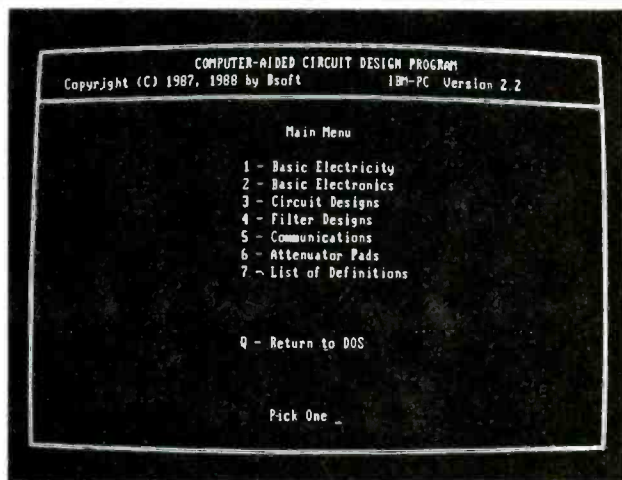
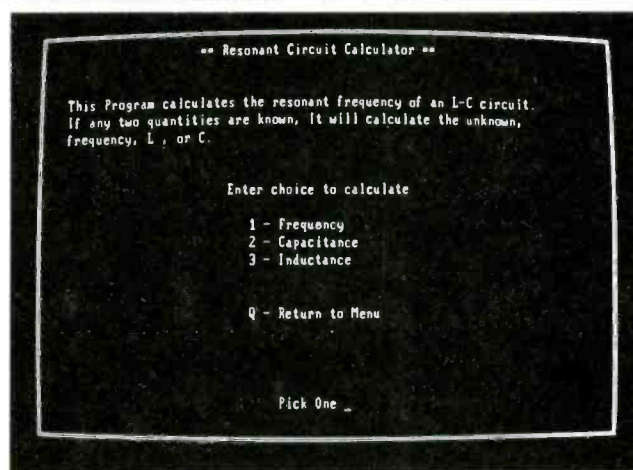

Fig. 4—*ComDes* is completely menu driven, as shown by its opening main menu.
Fig. 5—For resonant circuits, you'd simply thumb through the menus until you come to the one shown here.
Fig. 4—An alternative to creating a stand using this bar to group the unit's components, you may wish to attach all controls directly to the project cabinet itself.
The volume-control arm is made from a 13-in. piece of ¼-in. rod material of soft iron or brass, and shaped to match the one shown in the drawing of Fig. 5. A 1-in. brass drawer pull, or similar round knob is attached to one end of the rod and the other end is connected to the volume pot with a ¼-in. shaft coupler. The actual length and shape of the volume shifter can be modified.
The program "comes up" with the main menu shown in Fig. 4. Each category leads to related sub-menus. For example, if we wanted to calculate anything having to do with frequency we'd select item 2, *Basic Electronics*, bringing up the sub-menu shown in Fig. 5.